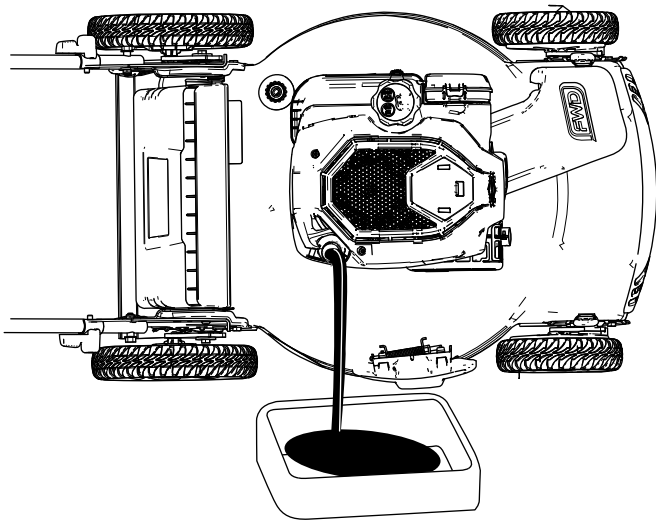

Figure 27
4. Tip the machine onto its side (so that the air filter is up) to drain the used oil from the oil-fill tube (Figure 27) or set the machine in the vertical-stow position (Figure 28). Refer to Storing the Machine in the Vertical-Stow Position (page 11) to drain the used oil from the oil-fill tube.